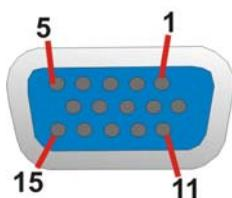

Figure 3-36: VGA Connector
**CN Pinouts:** See **Table 3-38** and **Figure 3-36**